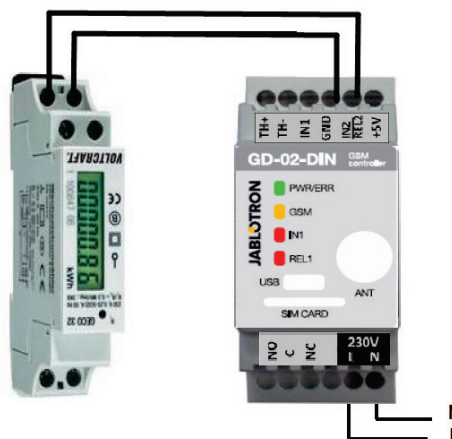

Figure 6: Electricity meter mode
- This mode requires connection between the impulse output and a secondary electricity meter using terminals IN2 and GND on the GD-02-DIN (see Figure 6). The electricity meter can be single-phase or three-phase.